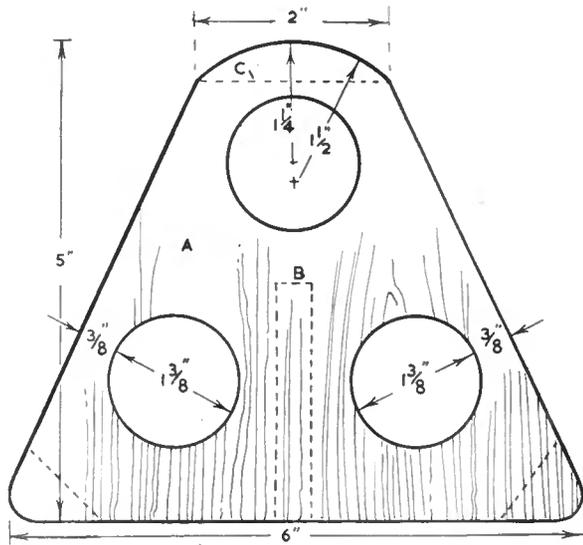

Fig. 2
In Fig. 2 the dimensions of the base (A) are shown. You can alter these if you wish, but do not make it so large as to look clumsy. The shape can best be drawn out first on paper, commencing by drawing a line 6ins. long and half-way along this a perpendicular line 5ins. high. The top is 2ins. wide, and the curve is obtained by striking an arc $1\frac{1}{2}$ ins. down as shown. The centre of the first circle comes $1\frac{1}{2}$ ins. down from the top, the diameter being $1\frac{3}{4}$ ins. The centres of the other two circles are $1\frac{1}{2}$ ins. from the bottom line and $1\frac{1}{4}$ ins. from the centre line.